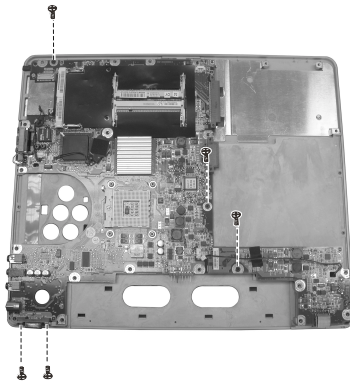

Figure 2-29 Remove the five screws
6. Remove the five screws and lift the system board. (Figure 2-29)